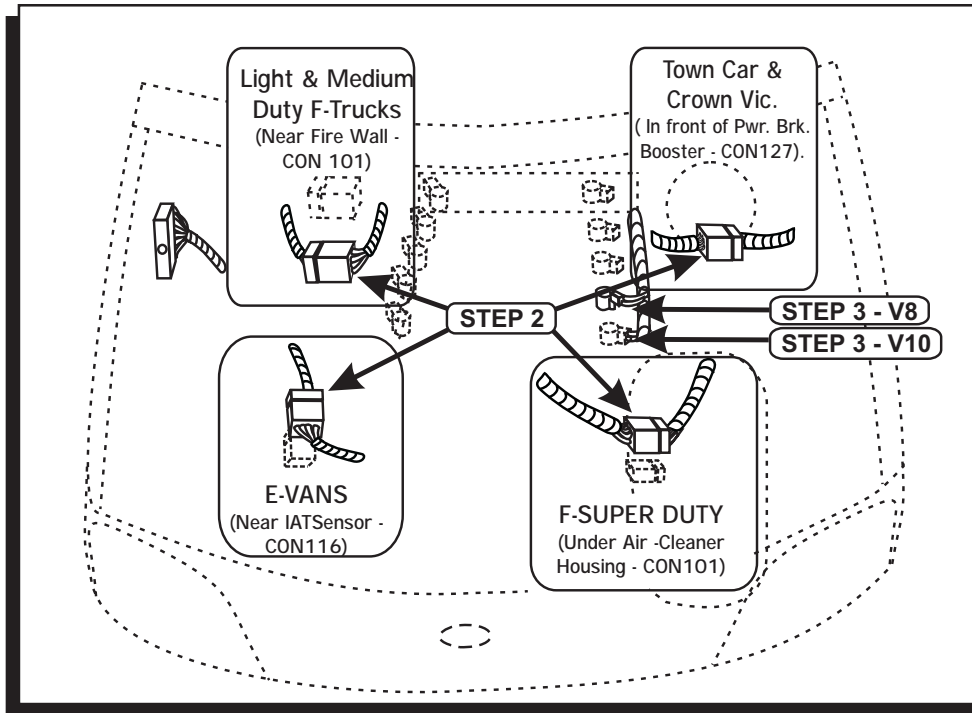

FIGURE 1 CONNECTOR & COIL LOCATIONS
- Locate the 42 Pin Fuel Charge/Engine Control Harness Connector (See Fig. 1 Next page)
## STEP 3: COIL SIGNAL INTERRUPT (SEE FIGURE 1 &amp; 3)